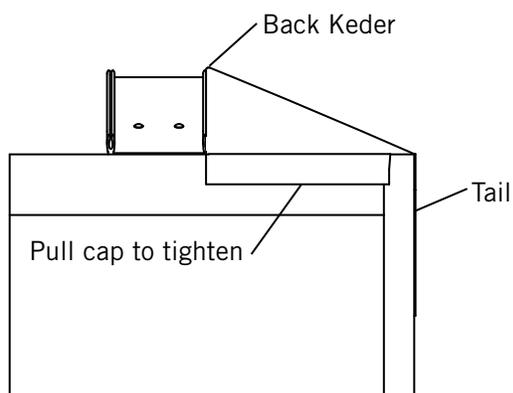

Figure 14-2
9) **Figure 14-2.** Feed fabric cap through back keder of aluminum trough.